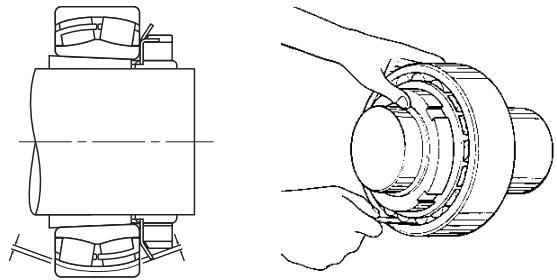

Fig 4. Checking bearing clearance with bearing mounted on shaft
6. Further tighten the nut until the clearance has been reduced by the amount shown in the chart in Fig. 2 but when the bearing is mounted on the shaft the clearance should be checked under the rollers at the bottom of the bearing as shown in Fig. 4.
7. Check bearing clearance as shown in Fig. 4 to ensure the clearance is not less than the minimum permissible residual clearance shown in the chart in Fig. 2 for the size and clearance of bearing.